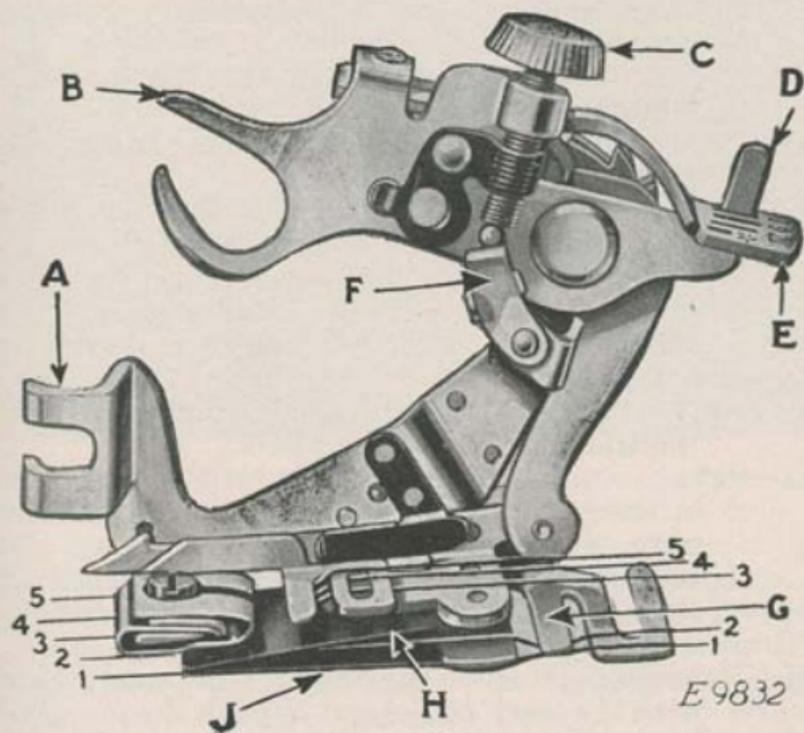
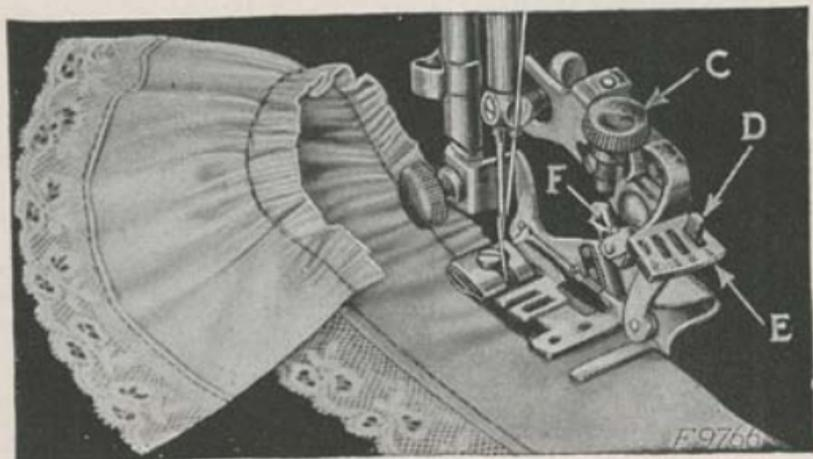
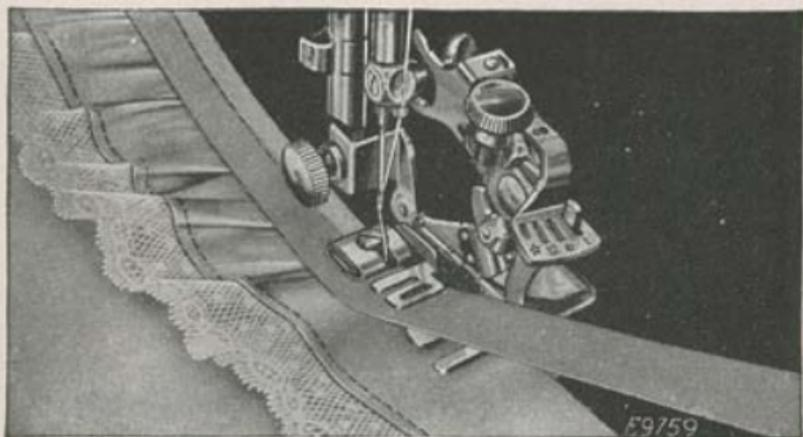
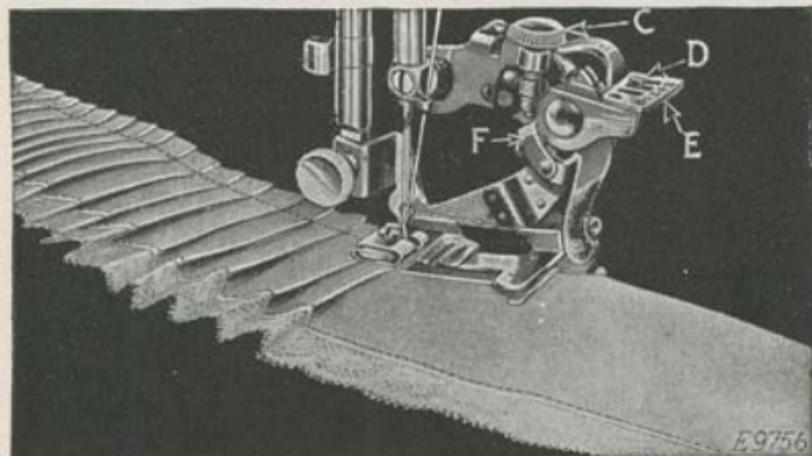

FIG. 52. THE RUFFLER AND ITS PARTS
FIG. 53
FIG. 55
FIG. 57
Lines 1, 2, 3, 4 and 5 shown in Fig. 52 indicate where the material is to be placed for various operations, as follows:
Refer to Fig. 52 when inserting the material in the ruffler.
(SEE REFERENCES IN FIG. 52)
Raise the needle bar to its highest position and remove the presser foot. Attach the ruffler foot (A, Fig. 52) to the presser bar by means of the thumb screw, at the same time placing the fork arm (B, Fig. 52) astride the needle clamp as shown in Fig. 53.
The adjusting finger (F, Fig. 53) is not intended for gathering and should be moved forward or away from the needle, as shown in Fig. 53.
Raise the adjusting lever (E, Fig. 53) and move it to the left so that the projection (D, Fig. 53) will enter the slot marked "1" in the adjusting lever (E) when the lever is released. The ruffling blade will then move forward and back once at every stitch. Insert the material to be ruffled between the two blue blades, following the line 2 in Fig. 52. Draw the material slightly back of the needle, lower the presser bar and commence to sew.
To make fine gathering, shorten the stroke of the ruffling blade by turning the adjusting screw (C, Fig. 53) upward; also shorten the stitch. To make full gathering, lengthen the stroke of the ruffling blade by turning the adjusting screw (C) downward, also lengthen the stitch. By varying these adjustments, many pleasing varieties of work can be accomplished.
2, in Fig. 52. Place the garment to which the ruffle is to be attached, under the separator blade, following the line 1, in Fig. 52. Proceed the same as for gathering.
Insert the material to be ruffled between the two blue blades, following the line 2, in Fig. 52. Place the garment to which the ruffle is to be attached, under the separator blade, following the line 1, in Fig. 52. Place the material for the facing over the upper blue blade, as shown in Fig. 55, following the line 3, in Fig. 52. The facing may be straight or bias material. If the facing is to be on the right side of the garment, place the garment and
Insert the material to be ruffled between the two blue blades, following the line 2, in Fig. 52. This
The material for piping must measure about  $\frac{1}{4}$  inch wide when folded in the center and is usually cut on the bias. Place the piping material in the ruffler, following the line 4, in Fig. 52, with the folded edge of the piping to the right. The material to which the piping and ruffling are to be sewn should be folded on the edge and inserted in the ruffler, following the line 5, in Fig. 52.
Raise the adjusting lever (E, Fig. 57) and move it to the right so that the projection (D, Fig. 57)
will enter the slot marked "6" in the adjusting lever when the lever is released. The ruffling blade will then move forward and back once at every six stitches. To adjust the ruffling blade to make a plait once at every twelve stitches, place the adjusting lever (E, Fig. 57) so that the projection (D) enters the slot marked "12" in the adjusting lever. Insert the material to be plaited between the two blue blades, following the line 2 (Fig. 52). The size or width of plaits is regulated by the adjusting screw
(C, Fig. 57) and the adjusting finger (F, Fig. 57). To make a wider plait, move the adjusting finger (F) back or toward the needle and turn the adjusting screw (C) downward. To make a smaller plait, turn the adjusting screw (C) upward. The distance between plaits is regulated by the length of stitch.